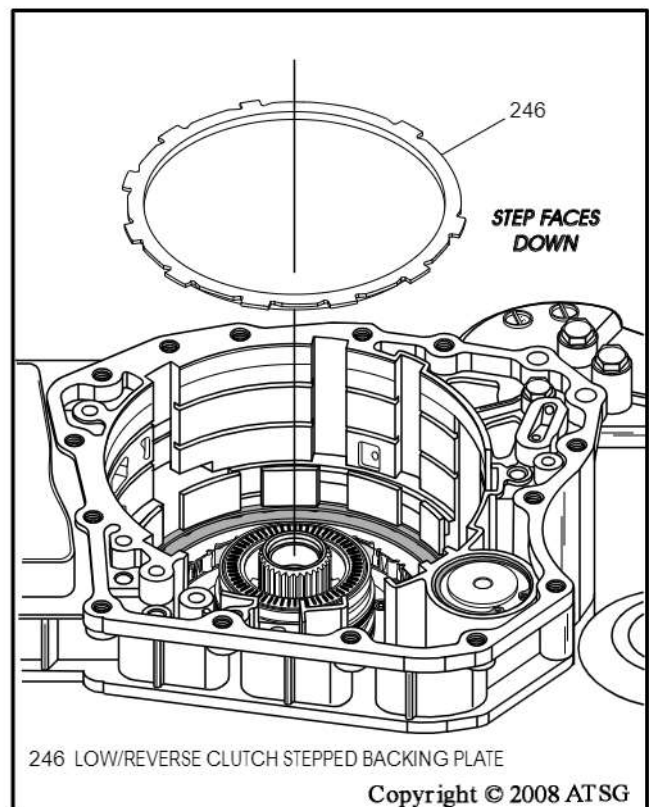

Figure 188
4. Install the low/reverse clutch stepped backing plate, as shown in Figure 188.
Note: Flatside faces up, step faces down, as shown in Figure 188.